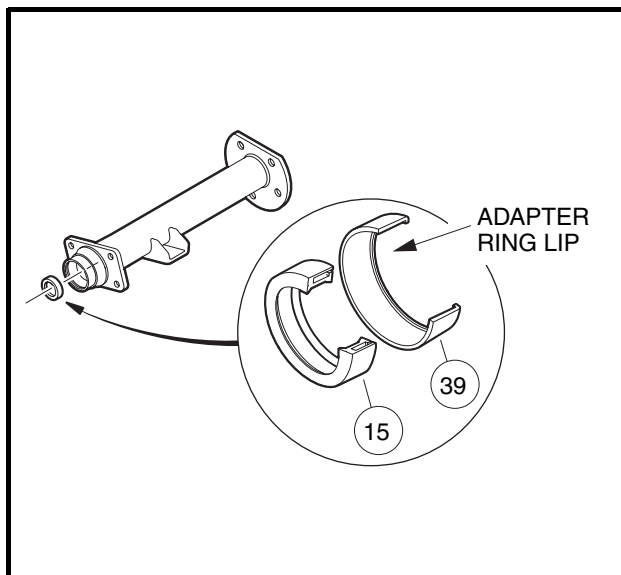

Figure 17-3 Axle Seal and Adapter Ring
- 6.2. Use a press to separate the axle oil seal (15) from the adapter ring (39) (**Figure 17-3, Page 17-2**). Retain the adapter ring and discard the oil seal.
- 1.1. Clean seal seat in the adapter ring (39) (**Figure 17-3, Page 17-2**).
- 1.2. Place a new seal (15) in the adapter ring with the seal lip facing toward the adapter ring lip (**Figure 17-3, Page 17-2**). Use an axle seal tool (CCI P/N 1014162) and mallet to tap it in until it seats firmly in position (**Figure 17-3, Page 17-2**). A hydraulic press may also be used with the axle seal tool.